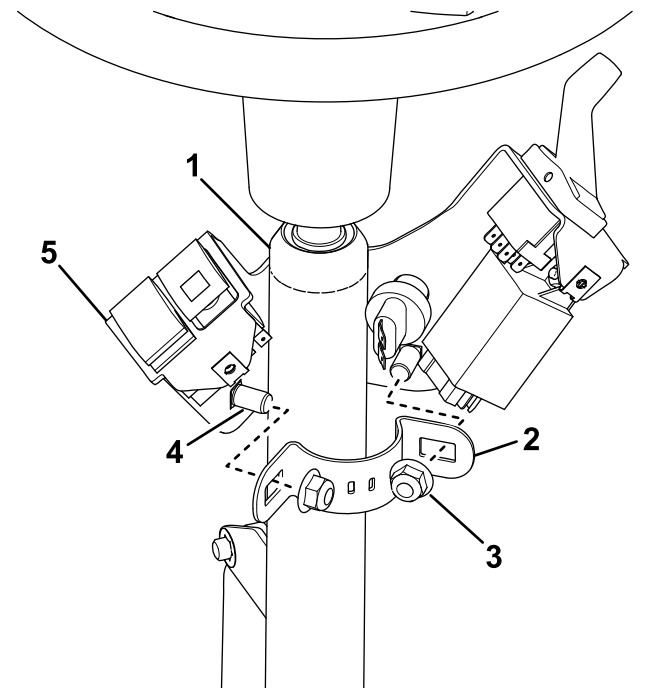

Figure 13
2. Install the column-mount bracket onto the steering column with the mounting bracket, 2 carriage bolts, and 2 flange nuts (Figure 13).